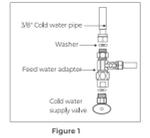

Figure 1
C. Insert the feed water adapter onto the cold water supply valve (with its washer) and tighten it with an adjustable wrench (Figure 1).